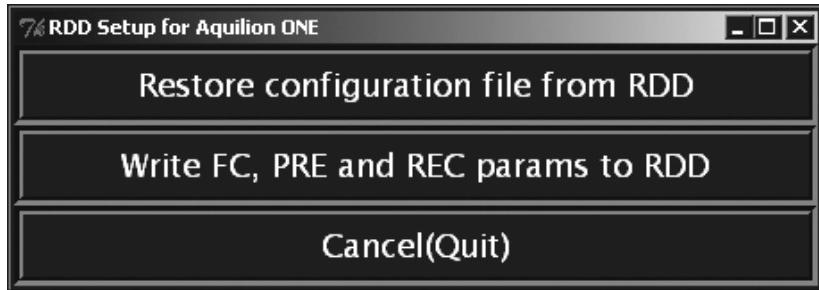

Figure 6.2.3-13
- (15) For the scan system, select [RDD Setup] from the interactive window (figure 6.2.3-10). (This does not need to be performed for the image processing system.) The following interactive window is displayed.